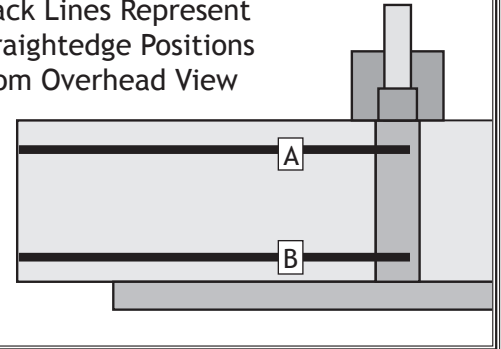

Figure 39. Straightedge positions A and B.
6. Move the straightedge to position **A**, as shown in **Figure 39**. Turn the jack screw nearest the fence counterclockwise until the end of the knife touches the straightedge.
7. Move the straightedge to position **B**, as shown in **Figure 39**. Turn the jack screw nearest the guard counterclockwise until the end of the knife touches the straightedge.